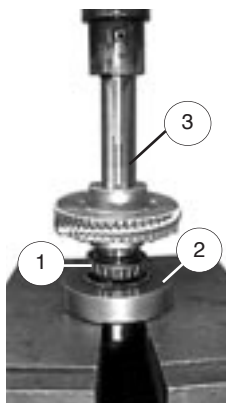

FIGURE 6 – Reassembly of Worm Gear and Bearing Cone
Figure 6 shows the recommended method of pressing the Bearing Cone (1) onto the Shaft (3). An Inserting Tool (2) is shown pressing evenly on the bearing inner race. This tool may be machined for this purpose in your shop. A substitute inserting tool may also be made from tubing which would have an I.D. sufficient to accept the shaft and an O.D. **no larger** than the inner bearing race.